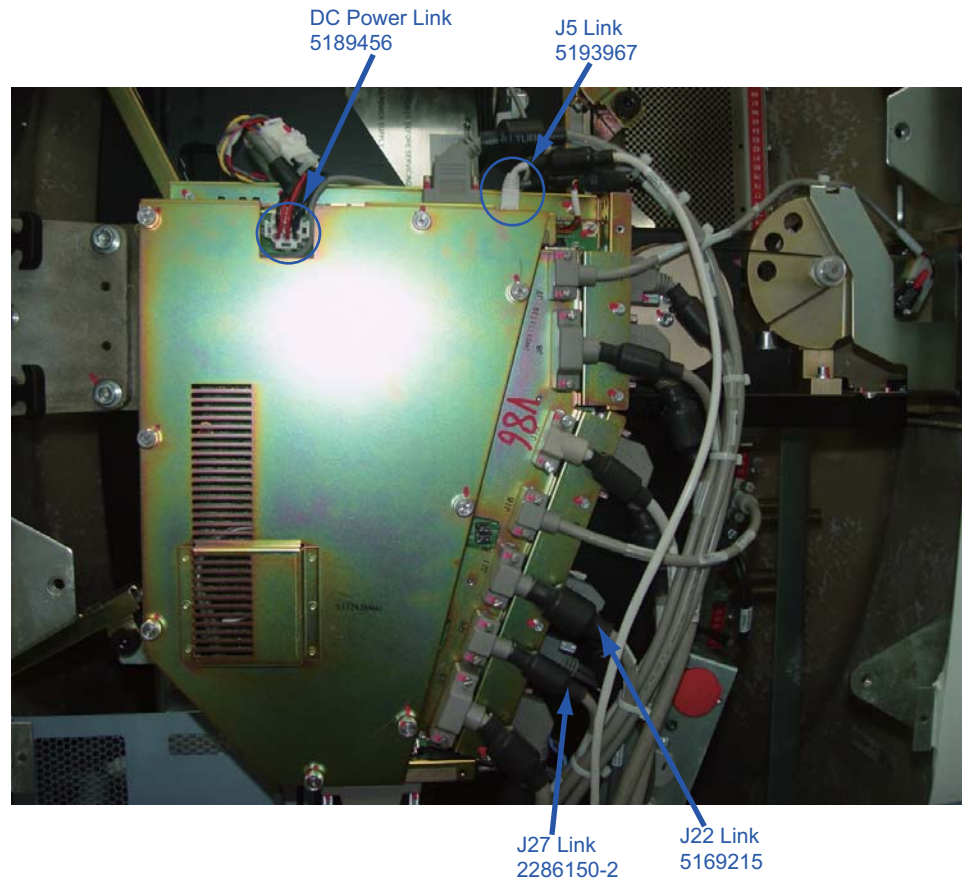

Figure 1-9 TGPU Connection
(Refer to Figure 1-9 through Figure 1-14 for further information)
- 3.) Connect cables 5189456, 5193967, 5169215 and 2286150-2 to DC Power, J5, J22 and J27 of TGPU BD according to their labels. as shown in Figure 1-9.